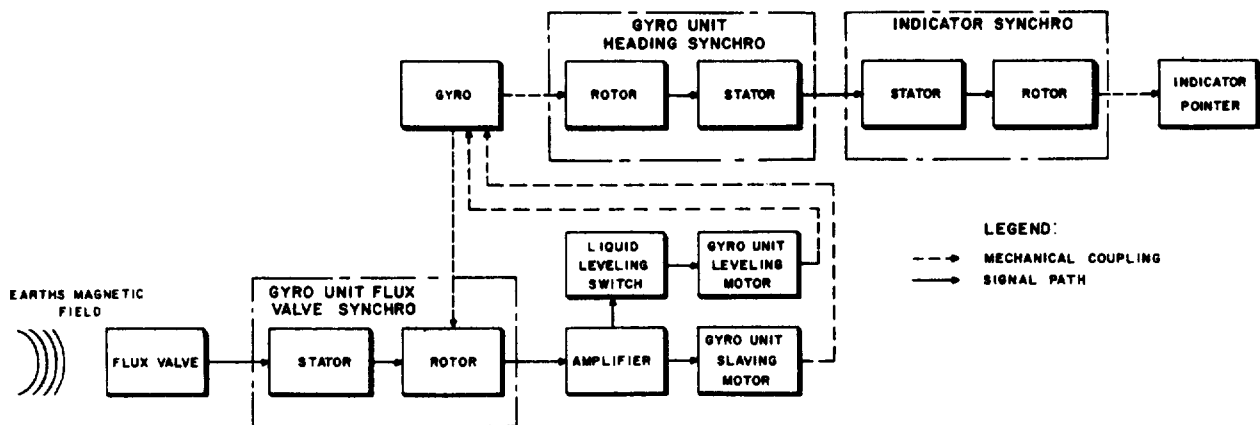
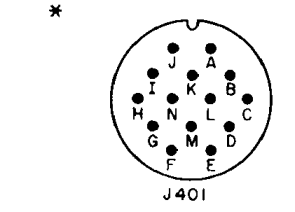

Figure 3. Compass system, block diagram.
Figure 4. Amplifier, Electronic Control Type A-2, schematic diagram
#### 4. Block Diagram Analysis (fig. 3)
*a: Input Amplifier V401.* The flux valve (fig. 3) applies an 800-cycle signal (error
signal) through the gyro unit flux valve synchro to pins E and F or connector J401 (fig. 4) to the A-section of input amplifier V401. Both sections of input amplifier V401 amplify the error signal which is coupled through transformer T401 to demodulator V402. Resistor R402 is a cathode-biasing resistor for the A-section of input amplifier V401. Resistor R406 is the plate load resistor. Resistor R407 and capacitor C403 make up a decoupling network. Capacitor C402 is a coupling capacitor and resistor R405 is the grid return for the B-section of input amplifier V401. Resistor R404 is a cathode-biasing resistor. Resistor R401 and capacitor C401 provide feedback from the B-section to the A-section of input amplifier V401. Transformer T401 provides transformer coupling from input amplifier V401 to demodulator V402.
*e. Slaving Circuit.* The output of the amplifier (fig. 3) is applied to the gyro unit slaving motor to reposition the gyro when it drifts. Secondary winding 3-5 (fig. 4) of saturable reactor L402 is connected across secondary winding 5-8 of transformer T402. A 400-cycle voltage obtained from the aircraft power sup-
*f. Leveling Circuit.* The output of the amplifier (fig. 3) is also applied through the liquid leveling switch to the gyro unit leveling motor. The voltage developed across secondary winding 6-7 of transformer T402 (fig. 4) is applied through pin G of connector J401 to one of the windings of the gyro unit leveling motor through the liquid leveling switch. The voltage for the other winding is obtained from pin J of connector J401 (e above).